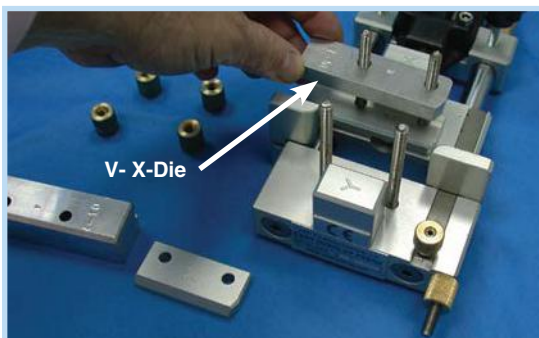

Fig. 8
2. Position the X Die on the V-Profile Lower Section (Fig. 8).